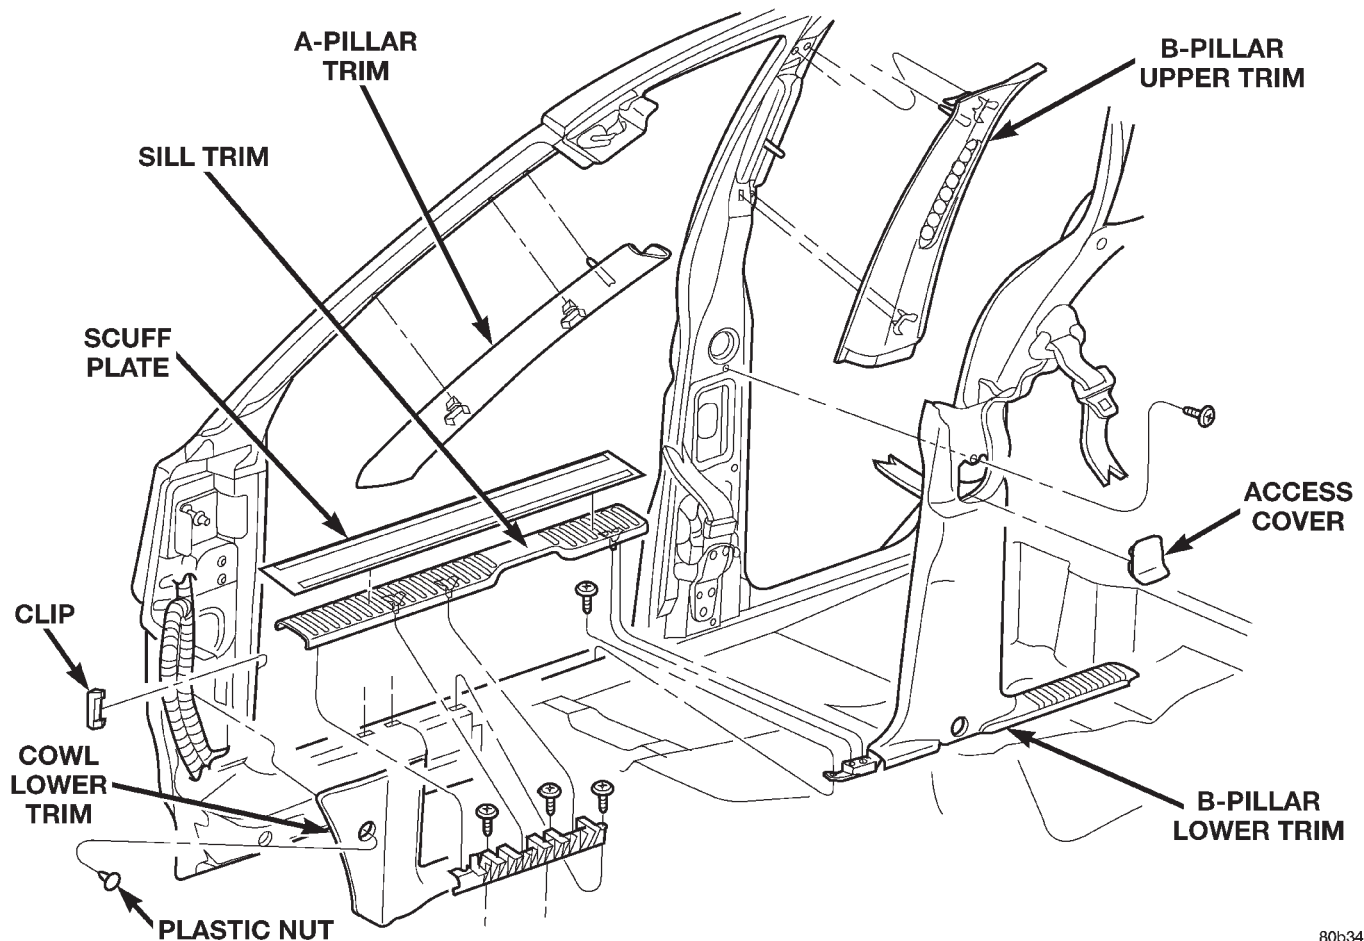

Fig. 59 B-Pillar Trim Panel
- (1) Remove shoulder belt height adjustment knob.
- (2) Remove front seat belt turning loop.
- (3) Remove the screw attaching lower B pillar trim.
- (4) Pull lower B pillar trim out far enough to remove upper trim panel.
- (5) Grasp upper B-pillar trim and pull outward to detach from B-pillar (Fig. 59).
- (5) Remove screws attaching front and rear of B-pillar lower trim to floor.
- (6) Remove screw attaching B-pillar lower trim to B-pillar (Fig. 59).
- (7) Grasp B-pillar lower trim and pull outward to separate from B-pillar.
- (8) Route seat/shoulder belt through access slot in B-pillar lower trim.
- (9) Separate B-pillar lower trim from B-pillar.